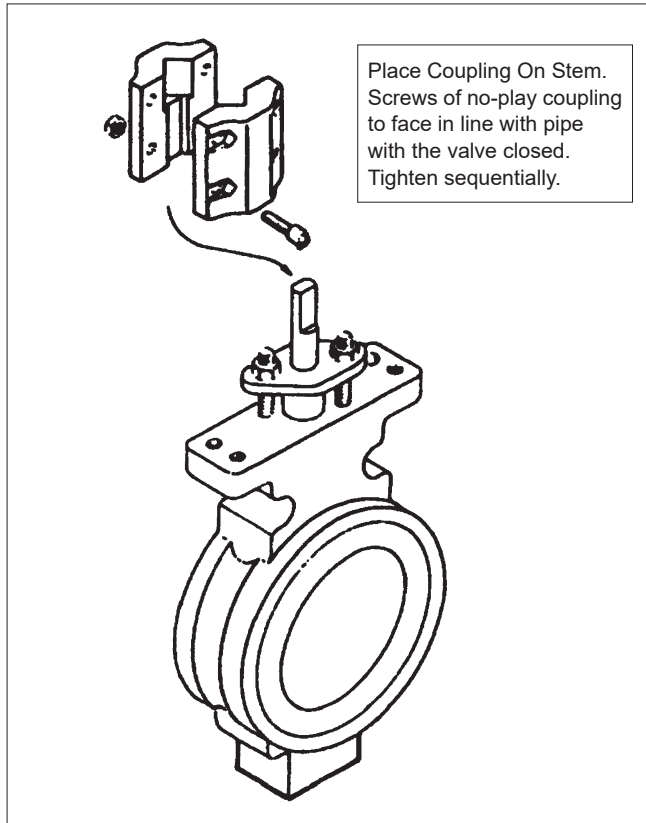

Figure 8.
2. Assemble bracket to actuator as shown in **(Figure 8)**. Tighten to torque listed in **(Table 4)**.